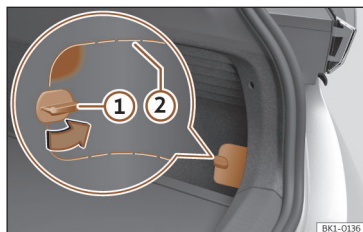

Fig. 61 On the lower right-hand side of the luggage compartment trim: cover with cutting lines.
- Turn the cover lock ① through 90° >>> Fig. 61.
- Press the surface over the lock inwards >>> Fig. 61 (marked zone).
- Insert your hand through the opening and pull the cover off. If necessary, apply a suitable object along the cutting lines ② >>> Fig. 61.